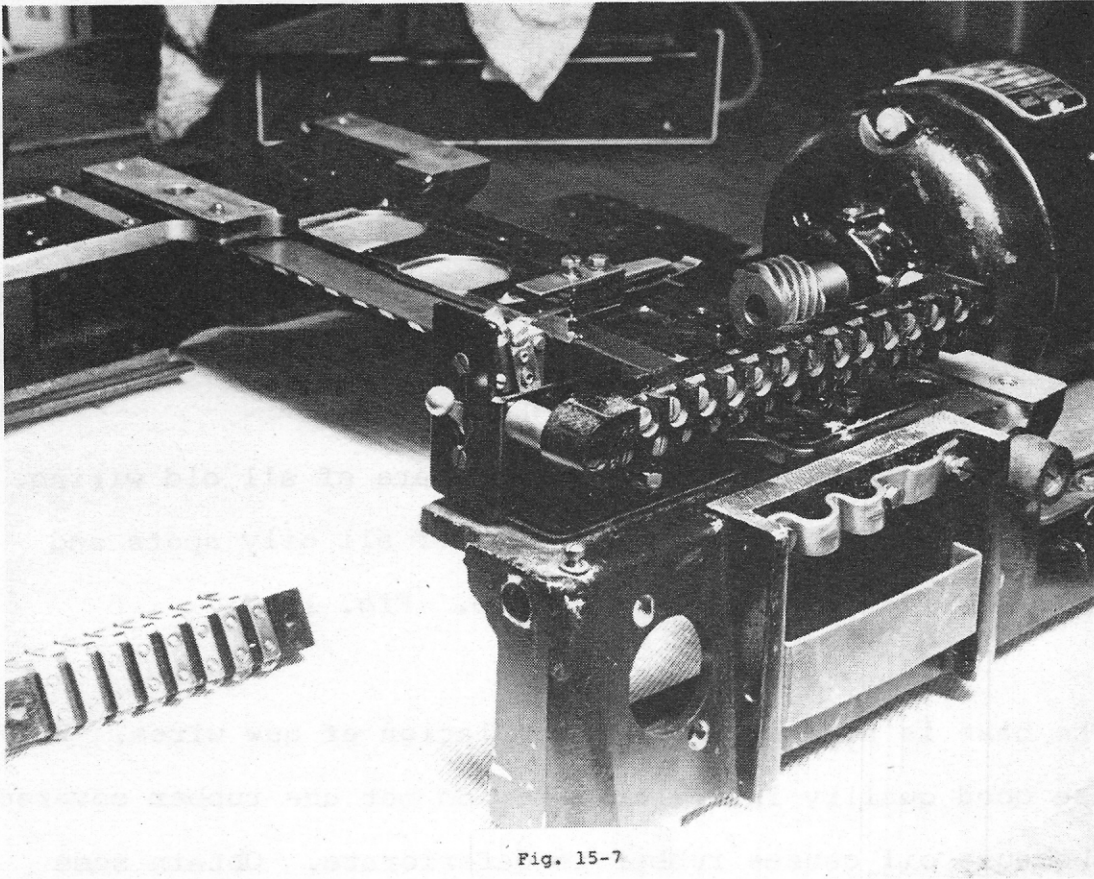

Fig. 15-7
8. You should have a base completely bare of all old wiring. Clean it up, with a rag, going after all oily spots and areas. A little naphtha will help. Fig. 15-7.